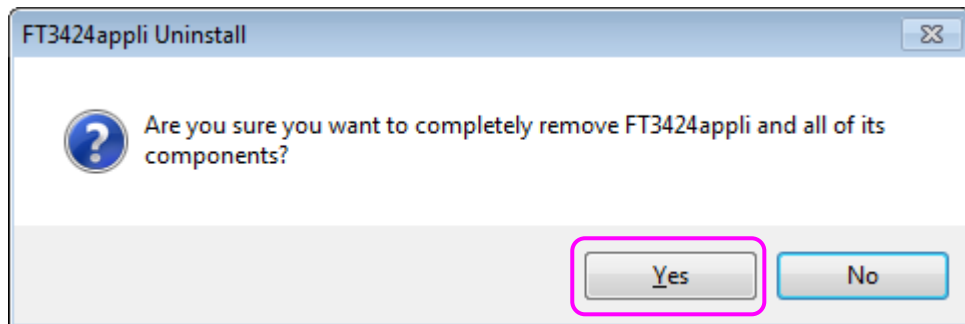

Fig.2-14
Step1: Windows 7, Click [Start] – [All Programs] – [HIOKI] – [FT3424] – [Uninstall FT3424appli] then the following dialog will appear. Click [Yes] to uninstall the software. (Fig.2-14)